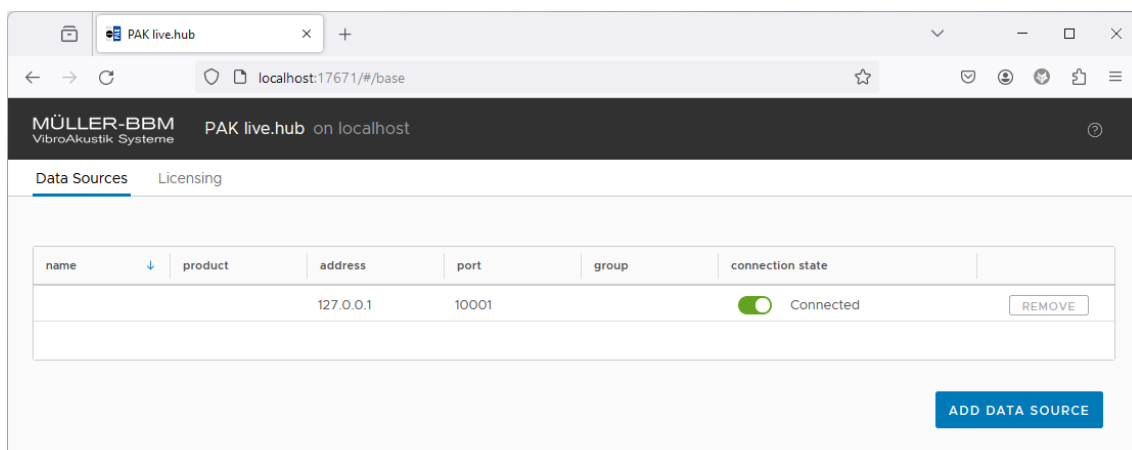

Figure 7: PAK live.hub service connected
5. If all data has been entered correctly and OXYGEN is started, including the setup for the PAK Live channel, the connection state will switch automatically to “connected” (see Figure 7)